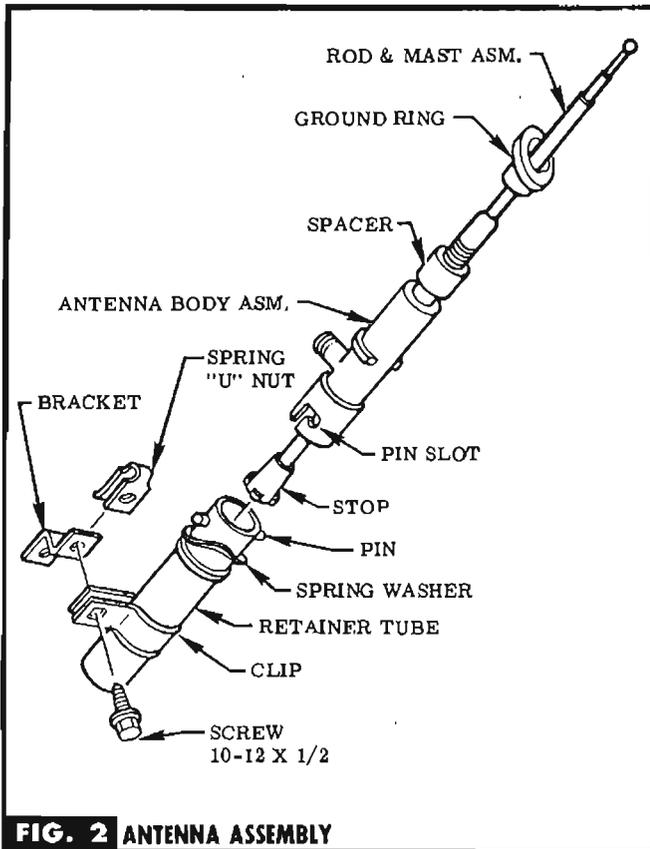

FIG. 2 ANTENNA ASSEMBLY
STEP 3 INSERT ROD & MAST INTO TOP OF ANTENNA BODY ASM. & PUSH THRU. SNAP STOP ON END OF ROD. SEE FIG. 2.